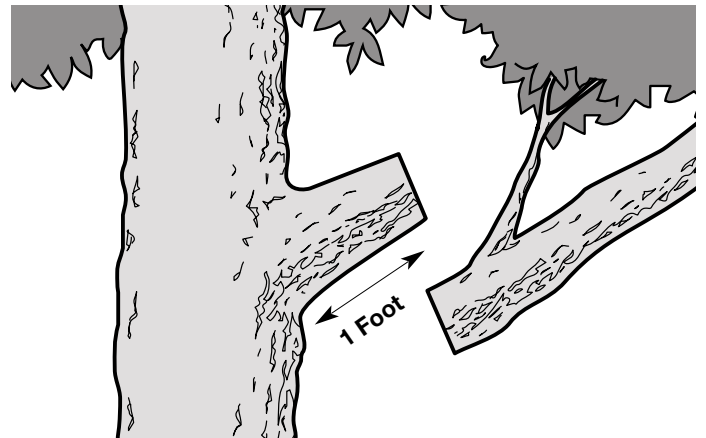

Fig. 13
2. Make the first cut one (1) foot from where the final cut will be (Fig. 13).